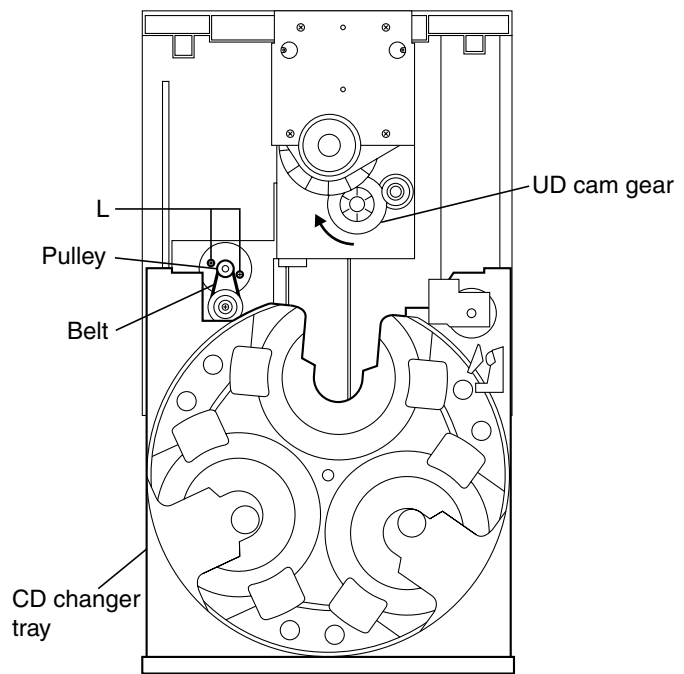

Fig.18
■ Replacing the loading motor and belt of the CD changer tray (See Fig.18)